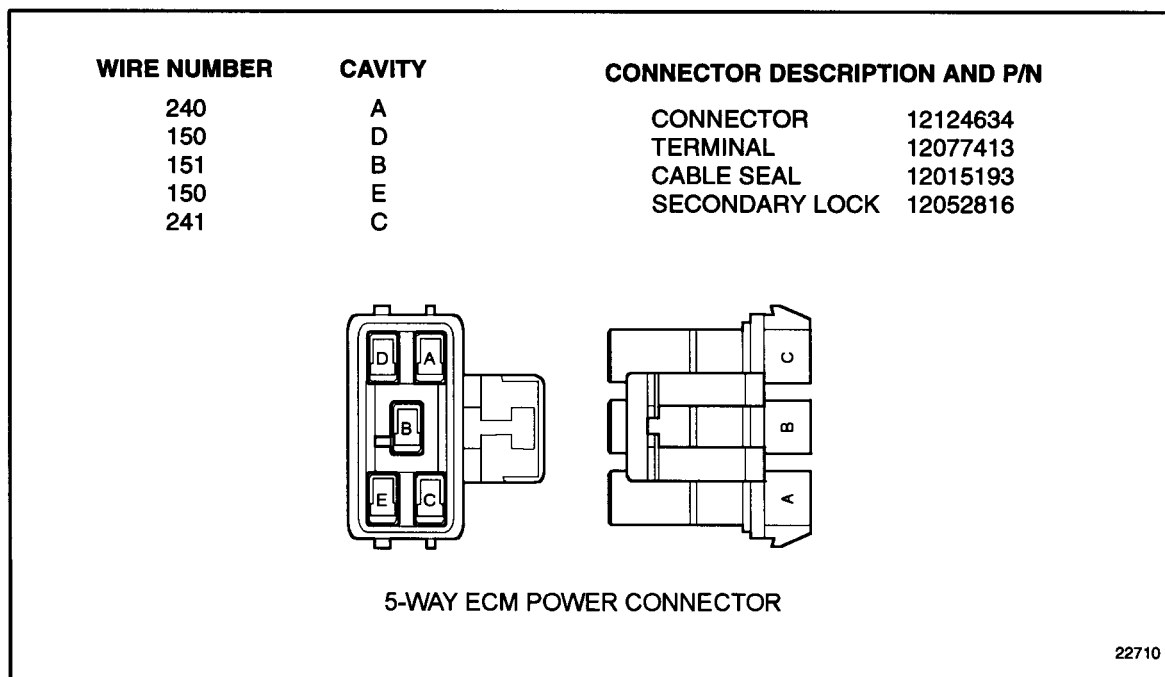

Figure 10-1 5-Way ECM Power Harness Connector
2. Reconnect all ECM connectors. See Figure 10-1.